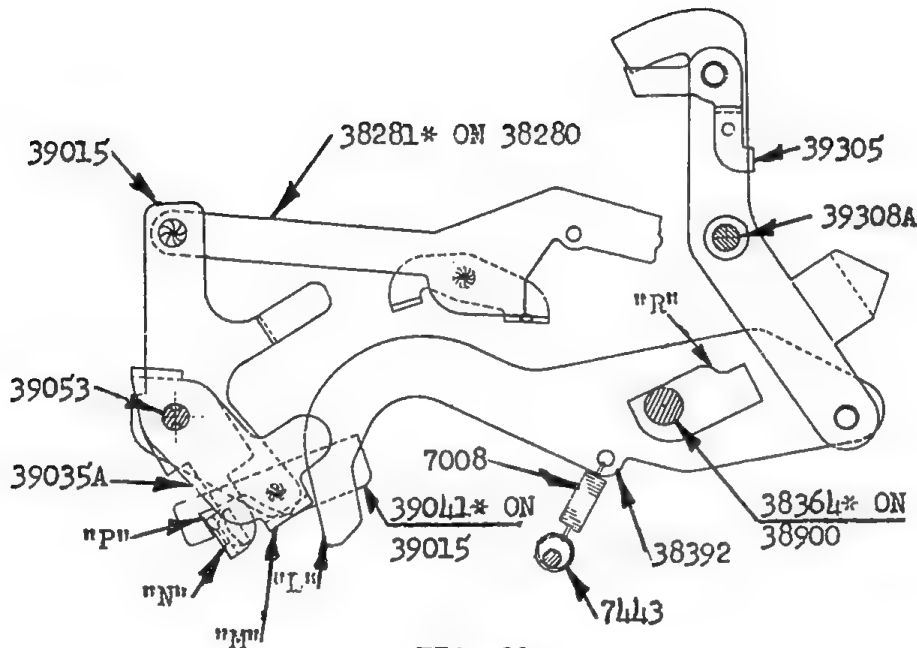

FIG. 23
1. (Fig. 23). As the Add Operating Lever-39305 is restored, it moves the Add Keyboard Clear Link-38392
2. (Fig. 23). As Link-38392 completes its forward motion, its Guide Stud-38364* cams surface "R" in the slot upward and thus moves surface "L" over ear "M" which allows 39035A to return to its normal counter-clockwise position. (Compare with Link-39475A in Section I-Para. D-1 on